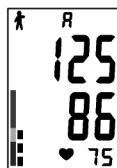

Fig. 14
- After a measurement is finished or when the device stands by, the user can press button 'M1' or button 'M2' to recall memory. Press button 'M1' or 'M2', the display will show the average value of the latest 3 readings as Fig.14;